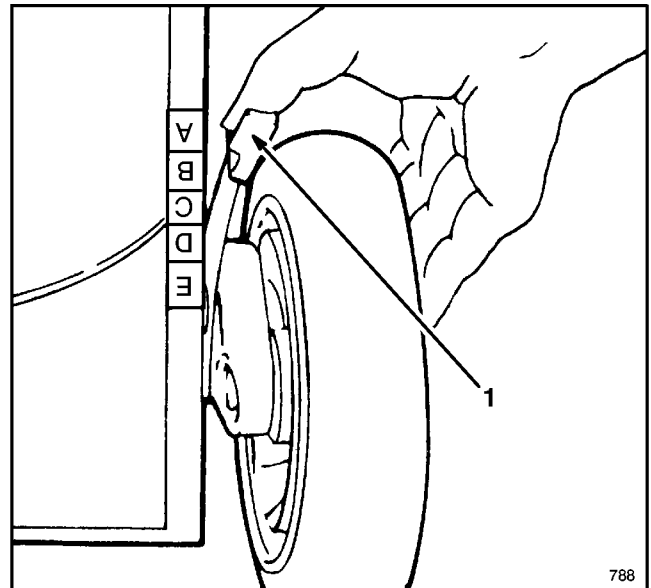

Figure 16
3. Squeeze mower's height-of-cut lever toward wheel and move it to the corresponding color/letter on mower housing (Fig. 16). For easier adjustment, lift housing up so wheel is off ground. **Do not put fingers under housing when lifting.** Ensure pin on height-of-cut lever engages slot in housing. Adjust all wheels to the same color/letter setting.